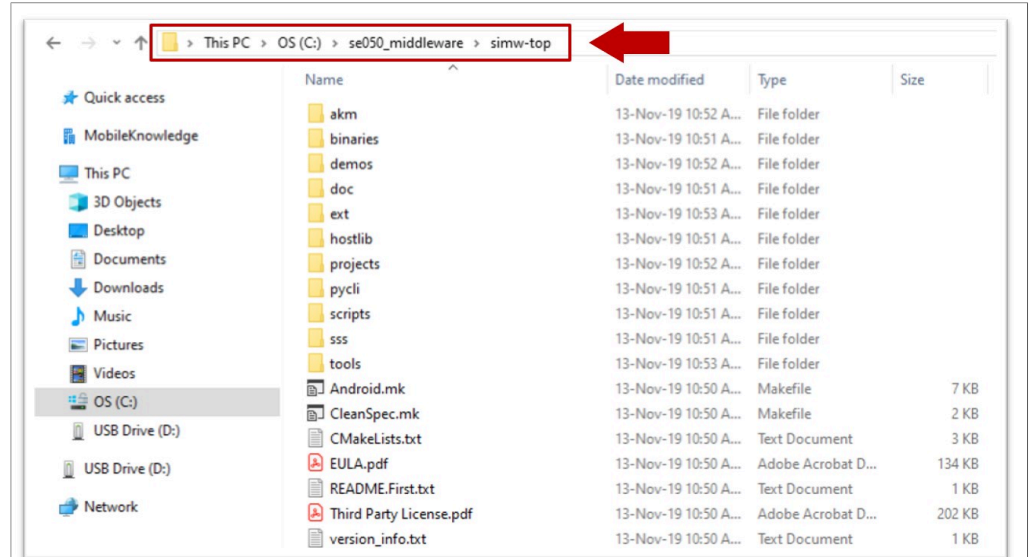

Figure 36. Unzip se050 middleware
3. Create a folder called **simw-top** inside the `se050_middleware`. Unzip SE050 middleware inside the **simw-top** folder. The unzipped package should look as shown in Figure 36: